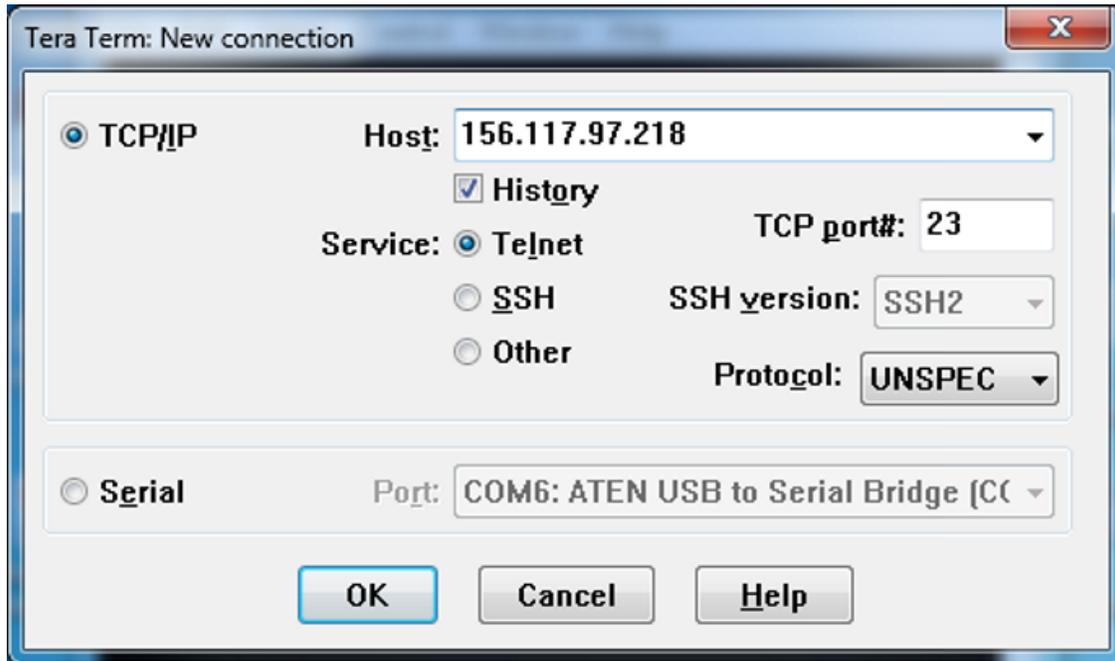

Figure 3. Tera Term: New Connection Setup—TCP/IP
- With the IP address determined in Step 3, return to the Tera Term: New connection window and enter the IP address as shown in Figure 3.